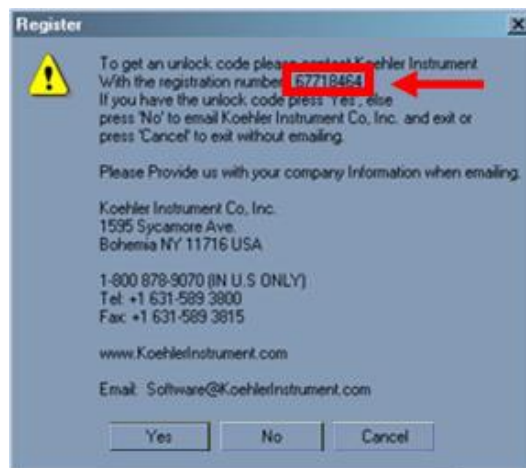

Figure 1. Registration Screen
2. **Registration.** Start the program and then go to >> Help >> Register. A registration screen will appear with a registration number (Refer to Figure 1, below). E-mail Koehler at software@koehlerinstrument.com or call with the registration number for the unlock code. Once the software has been registered, it must be restarted before tests are run.